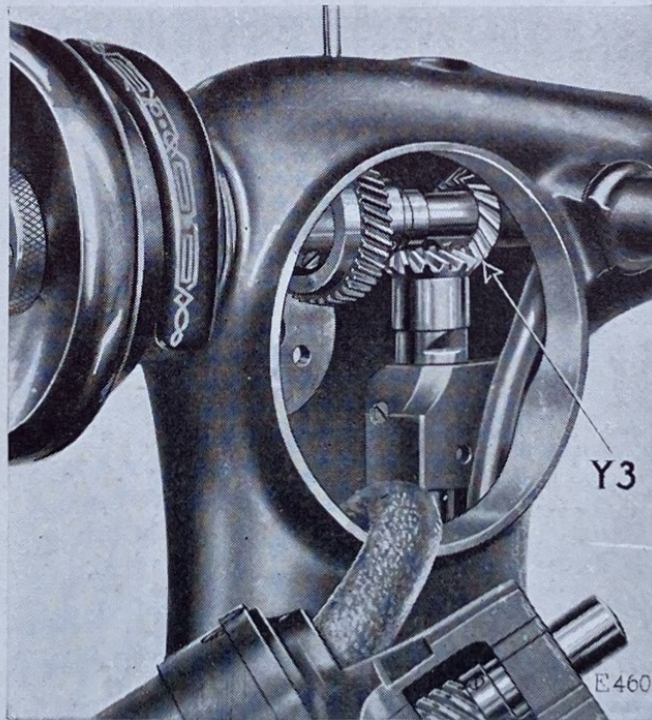
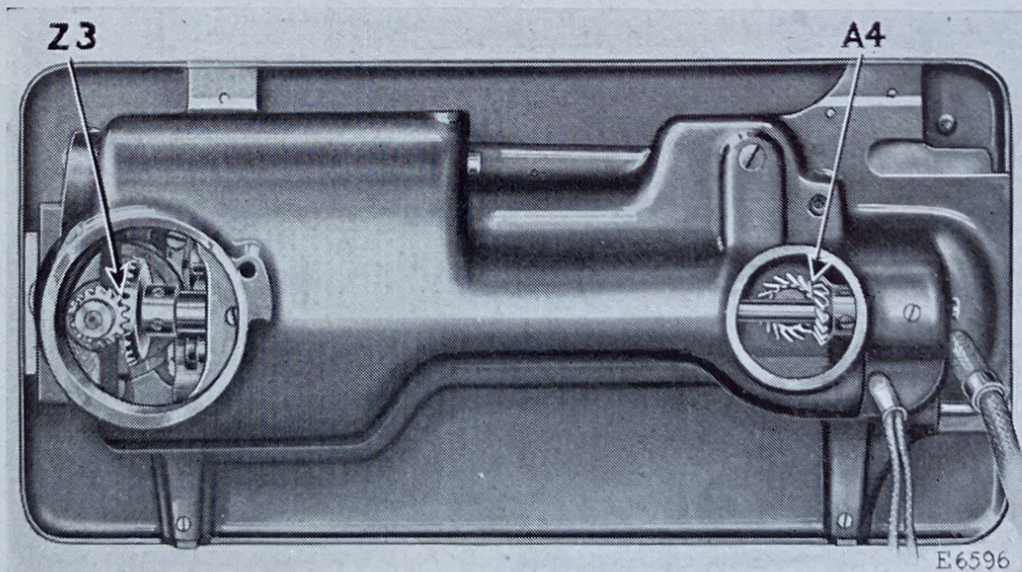

FIG. 38. BACK VIEW, SHOWING BEVEL GEARS
FIG. 39. BASE VIEW, SHOWING BEVEL GEARS
- (g) Apply Singer Lubricant to the teeth of the two bevel gears (Y3, Fig. 38) next to the spiral gears. The greasing of these two bevel gears should be done at the same time the motor cups are refilled, inasmuch as they can only be reached when the motor has been withdrawn from the sewing machine head.
1. There are three sets of bevel gears in the machine, as shown at (Y3, Fig. 38) and (Z3 and A4, Fig. 39). These bevel gears
2. The method of greasing the upper set of bevel gears (Y3, Fig. 38), i. e., those which are located in close proximity to the motor itself, has been explained under the heading "To Lubricate the Motor."
3. The two lower sets of bevel gears (Z3 and A4, Fig. 39) are exposed by removing the two round sheet metal covers located in the bottom of the machine. This can be done with a small screw driver.